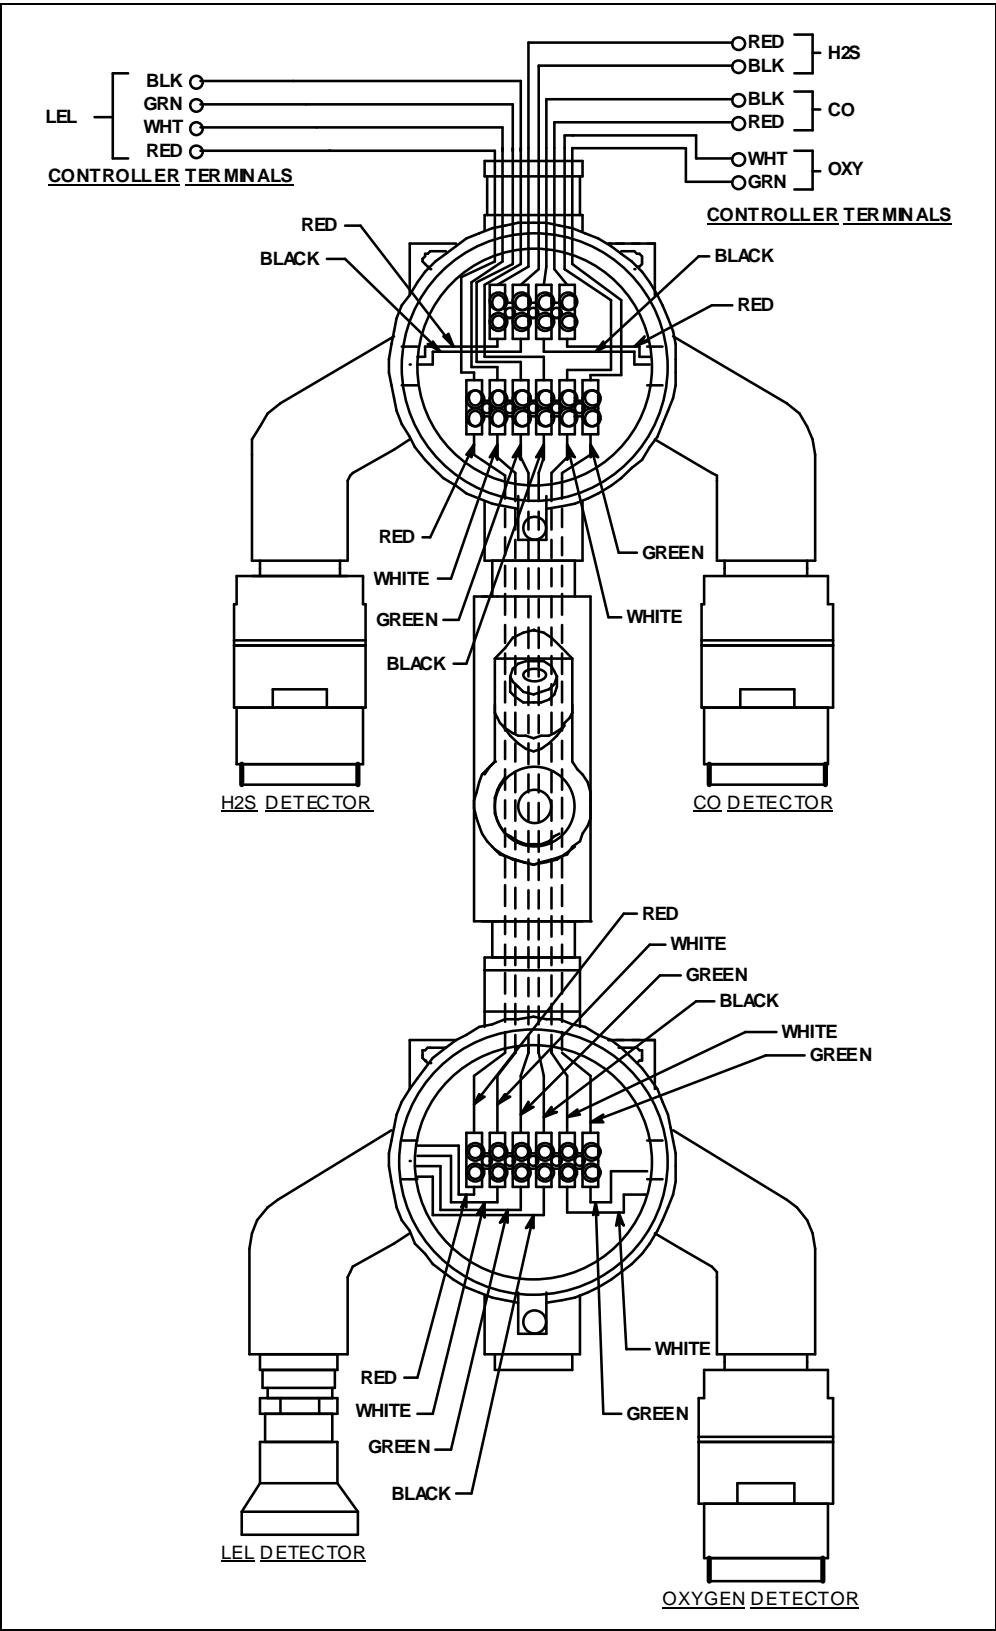
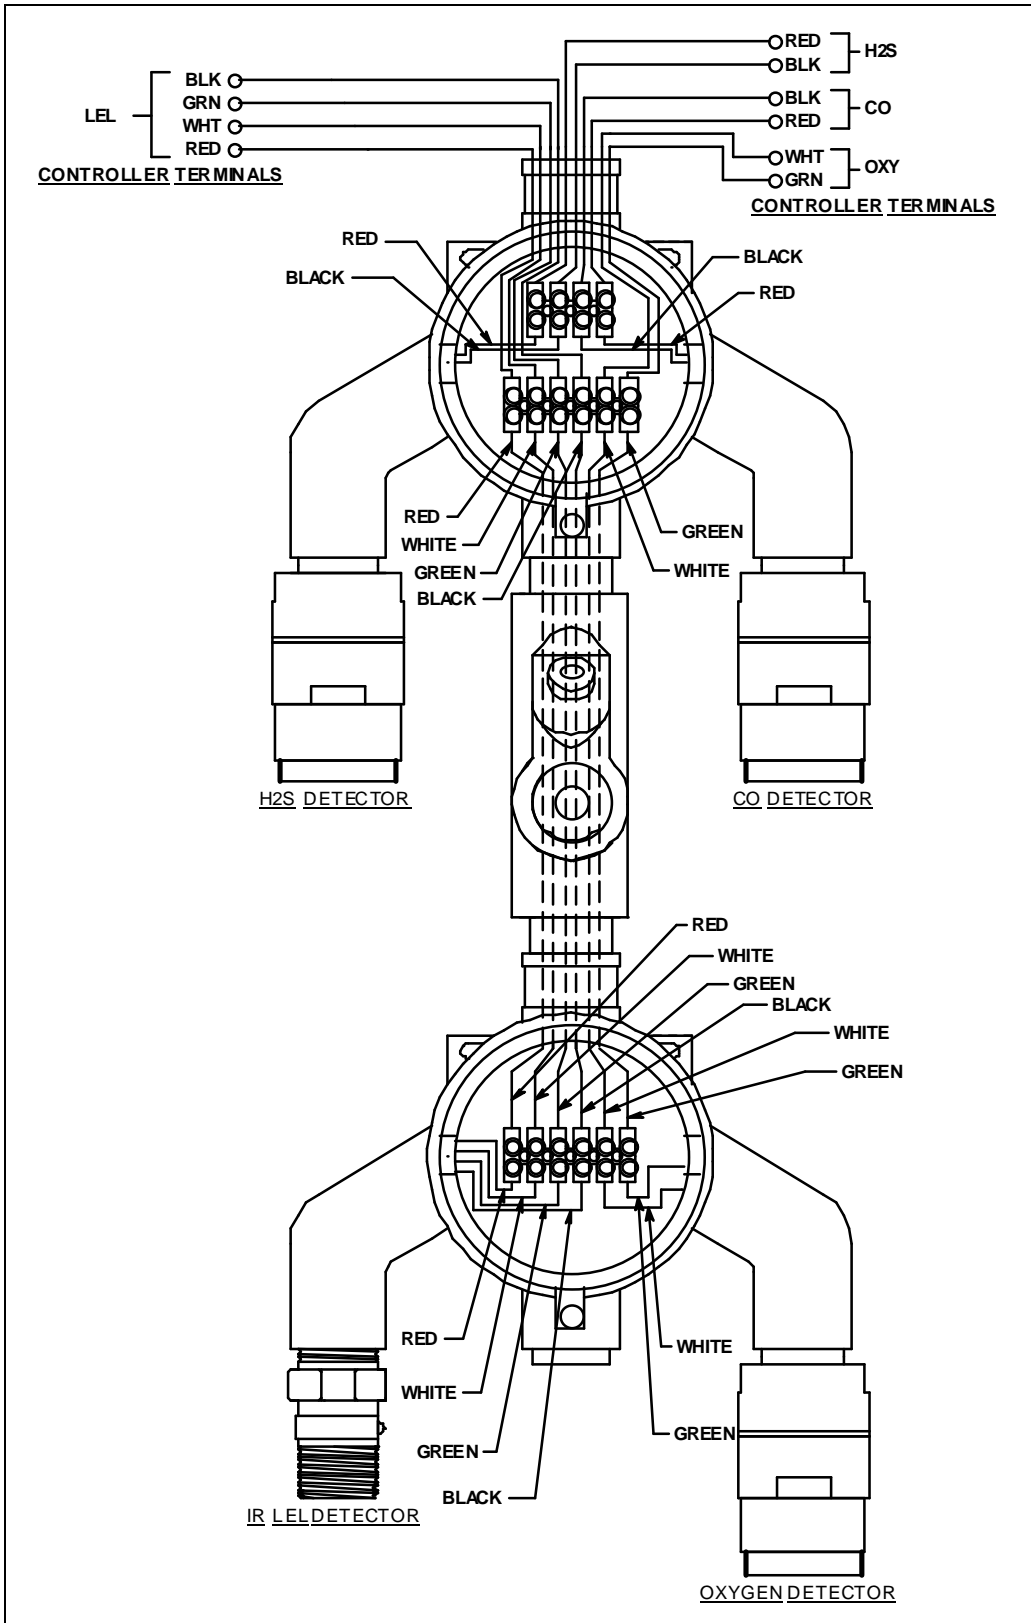

Figure 8: Wiring the 65-2481RK to a Controller
Figure 9: Wiring a 65-2481RK-01 or 65-2481RK-02 to a Controller
8. Connect the wires to the applicable controller terminal strips. See the controller operator's manual and the controller's detector head specification sheet. Also see Figure 8-Figure 9 for wiring diagrams for each detector model.
7. Connect the detector leads to the terminal block the same way the old detector was wired. See the controller operator's manual and the controller's detector head specification sheet for the LEL detector to verify the connections are correct. Also see Figure 8-Figure 9 for wiring diagrams.
7. Connect the detector leads to the terminal block the same way the old detector was wired. See the controller operator's manual and the controller's detector head specification sheet for the oxygen detector to verify the connections are correct. Also see Figure 8-Figure 9 for wiring diagrams.